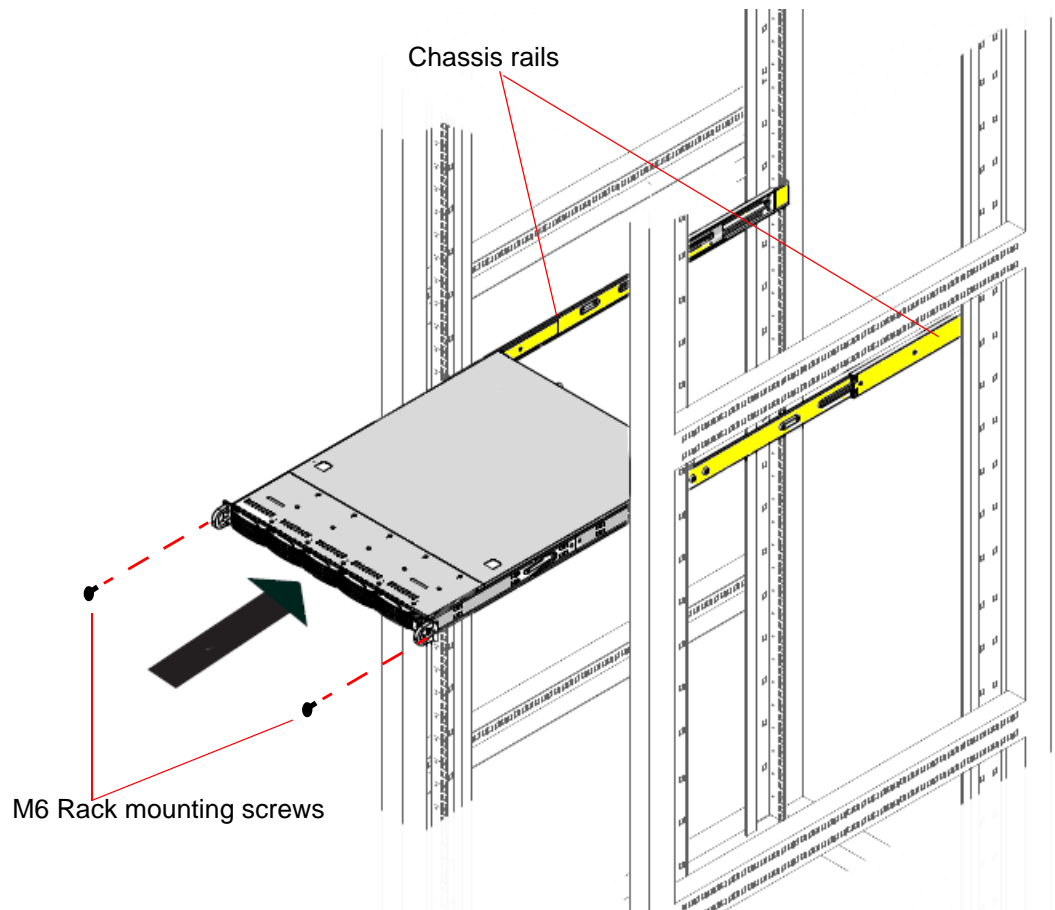

Figure 21 MV-805 Rack Mounting
4. Secure the MV-805 chassis in the rack at each mounting hole using 2-off M6 rack mount screws. See Figure 21.
7. Secure the MV-805 chassis in the rack at each mounting hole using 2-off M6 rack mount screws. See Figure 21.